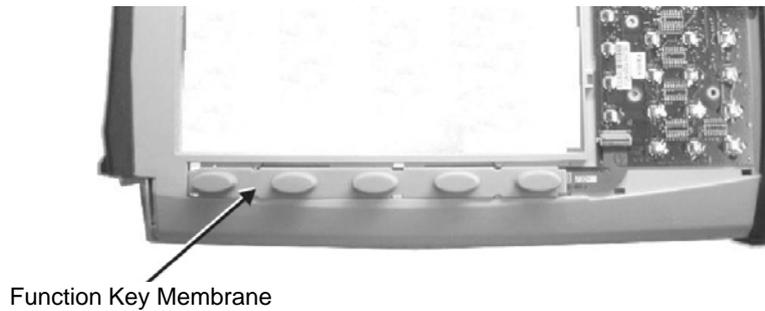

Figure 5-7. Function Key Membrane and Switchpad
4. Remove the function key membrane by gently pulling the membrane up and away from the front panel (Figure 5-7).